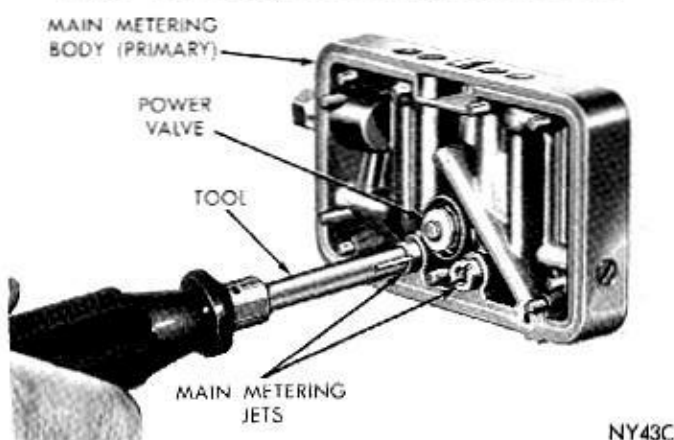

Fig. 8—Removing or Installing Main Metering Jets
(3) Install main metering jets (Fig. 8), using Tool C-3748. Tighten securely.